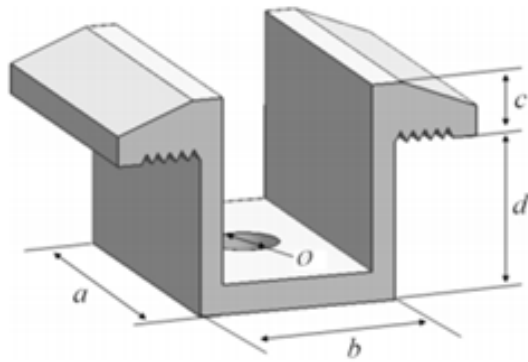
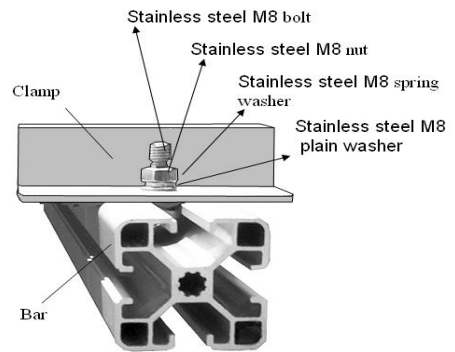

Fig. 5 Schematic diagram of the mid clamp
Fig. 6 Schematic diagram of the fringe clamp
- ② Be sure to avoid shadowing effects from the module clamps. Weep holes on the module frame must not be closed or obscured by the clamps. The clamp must have at least 8mm but no more than 11mm overlap with the frame of the module (The clamp section can be changed under the premise of ensuring reliable installation).
- ③ The top surface of the rail contacted with module frame should be equipped with grooves compatible with an M8 bolt.
- ④ If the grooves are not provided, holes of a suitable diameter may need to be drilled to allow bolts attaching to the rail at the same locations as mentioned above.
- ⑤ Ensure that the mounting sequence of each clamp is in the order of flat washer, spring washer and nut.
- ⑥ There are two types of clamps, the mid clamp shown in Fig 5 and the fringe clamp shown in Fig 6. The mid clamp has dimensions of $a \geq 40$ mm, $b \geq 26$ mm, $c \geq 5$ mm, $d \geq 28$ mm, $\varnothing = 9$ mm. The tightening torque is suggested to be 17~23Nm for Class 8.8 screw and bolts.